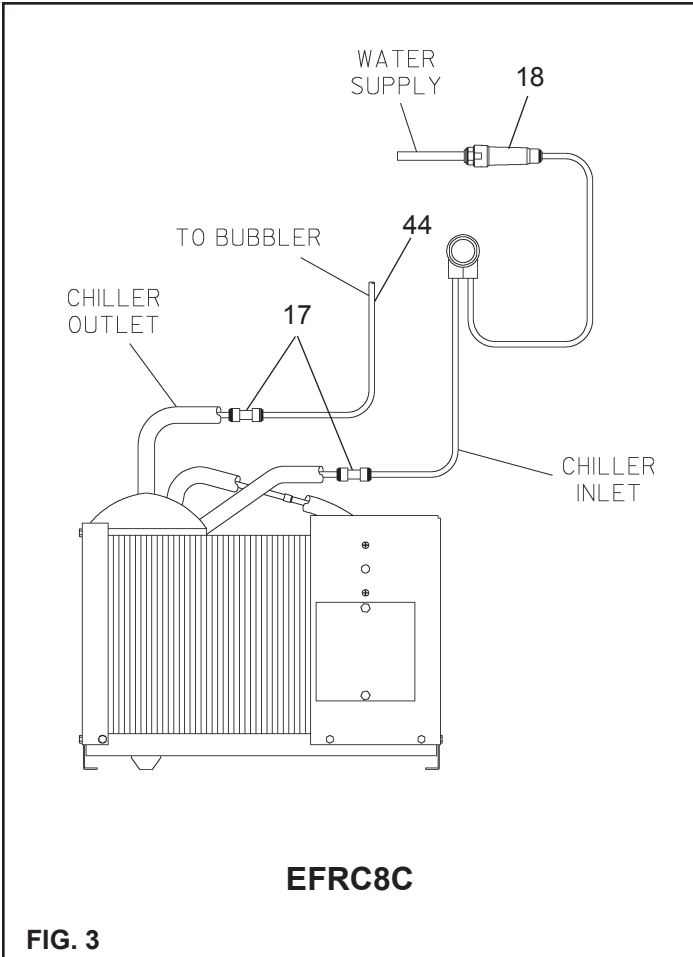

FIG. 3
7. **Connect** the refrigeration package to the supply line service stop valve. Connect supplied fountain (internal plumbing) tubes as shown in figures 3, 4, 5, or 6. Remove any burrs from water tubes before inserting into fittings. (See Figs. 13 and 14) **DO NOT SOLDER TUBES INSERTED INTO THE STRAINER AS DAMAGE TO THE O-RINGS MAY RESULT.**